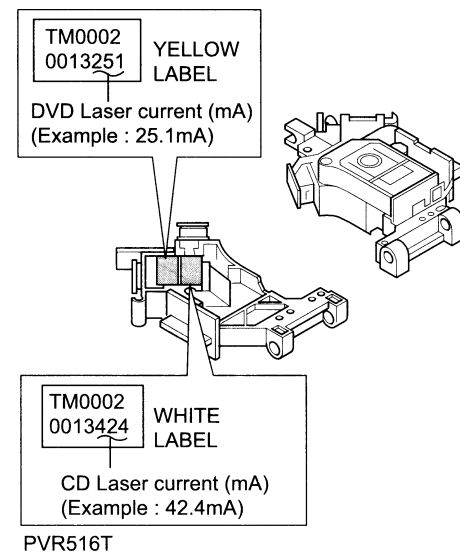

Figure 6. Laser Current Rating Label
8.7 The measured laser current value should be + 20% of the printed current rating on the pickup head (PU). See Figure 6. If the value is out of range, and the lens has been cleaned, replace the DVD drive.